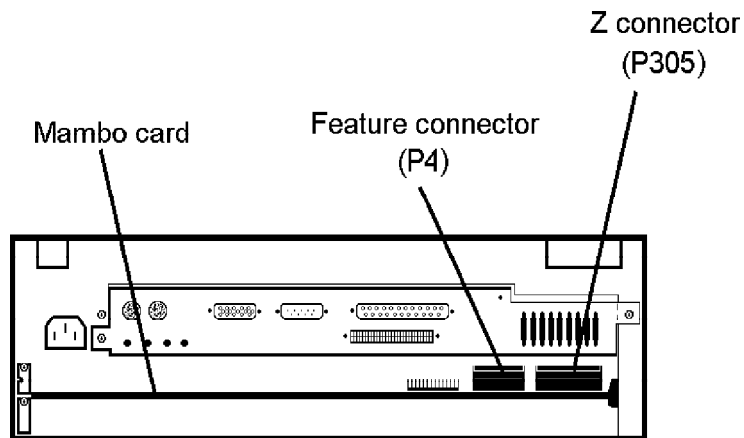

Figure 4-14 Mambo Card Cables and Connectors
Removing a Mambo Card (Refer to Figure 4-14.)
- 1a. When installing a Mambo board, connect the **Z connector cable** and **feature connector cable** to PJ581 and PJ580 on the system board. Be sure to align the Z connector cable with the red stripe to the right and the feature connector cable with the red stripe to the left. Note that the connectors on these cables are keyed for proper installation (Figure 4-14).
- 3a. Before completely seating a Mambo card, connect the **Z connector** and **feature connector cables** to P305 and P4 on the card (Figure 4-14).